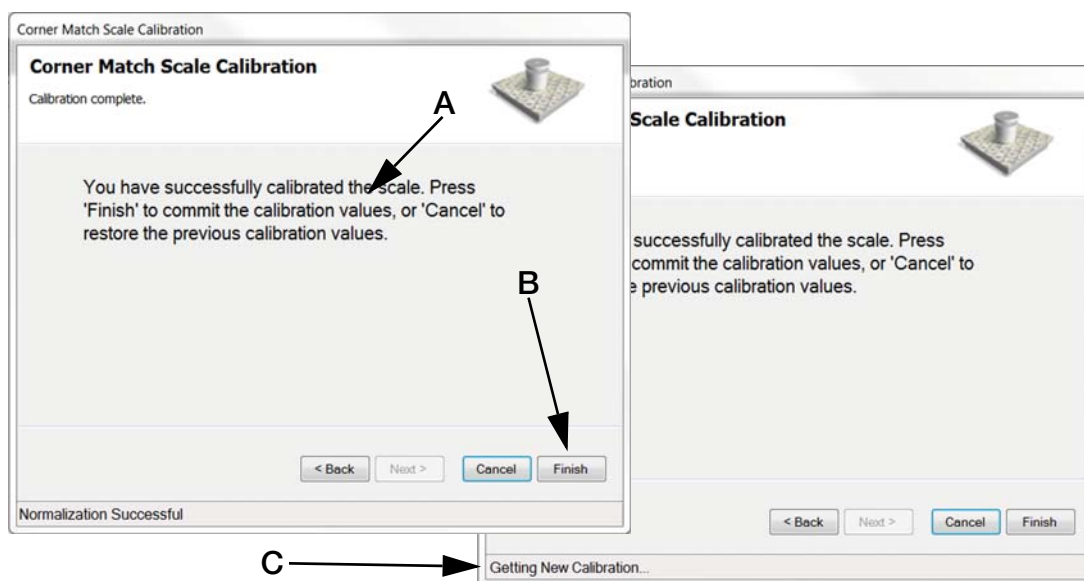

Figure 5-8. Finish Calibration
14. A message that you have successfully calibrated the scale will appear (Figure 5-8 A) then press **Finish** (Figure 5-8 B).
A message appears in the bottom of the frame "Getting New Calibration" (Figure 5-8 C). When done the pop up box will disappear and calibration is complete.